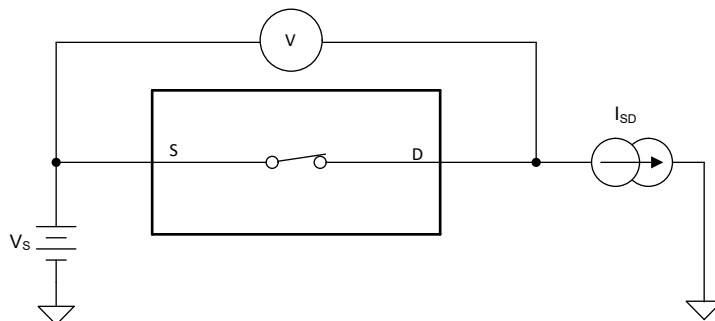

Figure 7-1. On-Resistance Measurement Setup
The On-Resistance of a device is the ohmic resistance between the source (Sx) and drain (Dx) pins of the device. The On-Resistance varies with input voltage and supply voltage. The symbol R_{ON} is used to denote On-Resistance. Figure 7-1 shows the measurement setup used to measure R_{ON} . Voltage (V) and current (I_{SD}) are measured using this setup, and R_{ON} is computed with $R_{ON} = V / I_{SD}$.